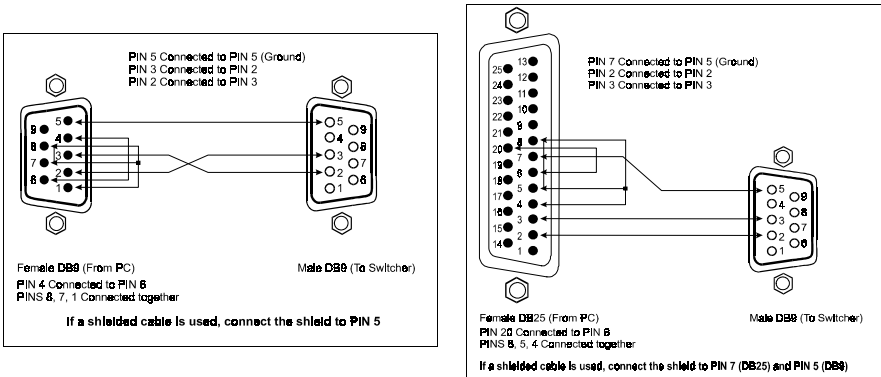

Figure 3: Connecting a PC without using a Null-modem Adapter
- Connect the RS-232 DB9 port on your PC to the RS-232 DB9 rear panel port on the **VS-802xl** unit, as Figure 3 illustrates (depending on whether the PC has a 9-pin or 25-pin connector)